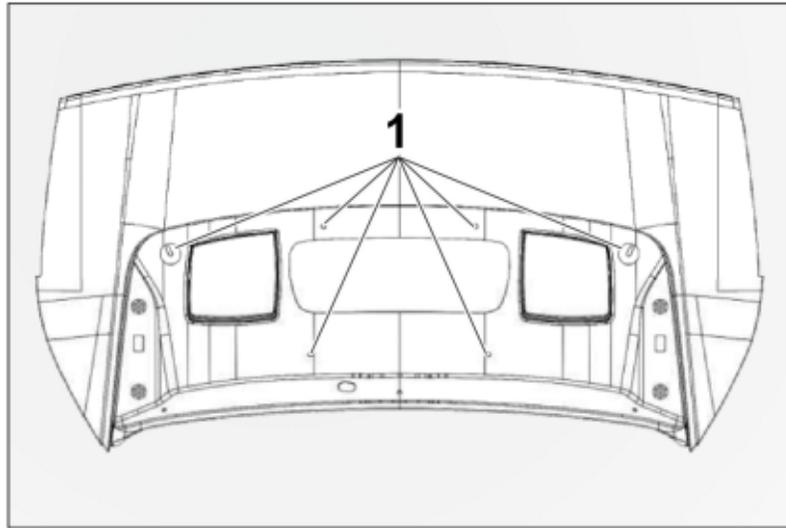

Figure 64
35. – Attach the supplied spacers for the upper air intake to the fastening points ⇒ *Figure 64 -1-* shown. **Note:** The spacers should be glued on with SIKAFLEX N260. They will then adhere to the trunk lid, but their position can still be shifted.